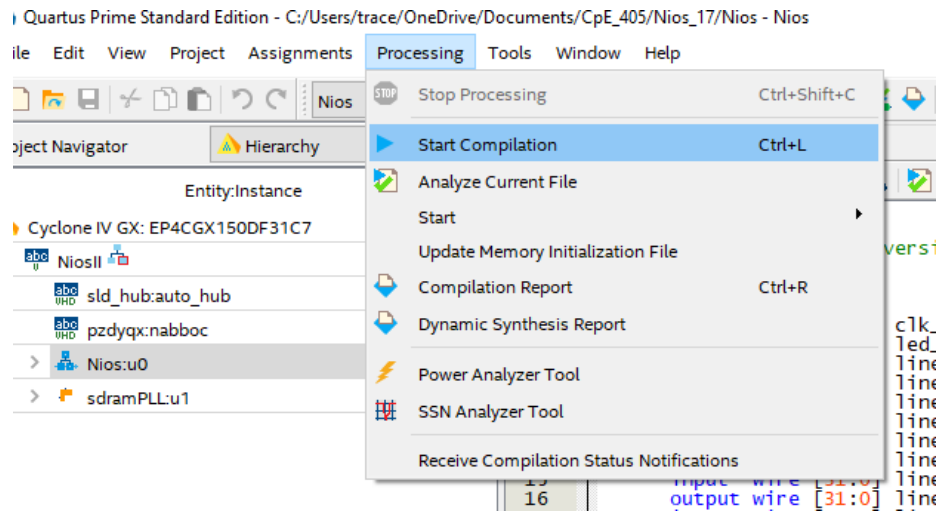

Figure 2-7 Compiling Project
- 4.) We will now need to compile the program. Choose **Processing** → **Start Compilation** as shown in Figures 2-7 and 2-8.